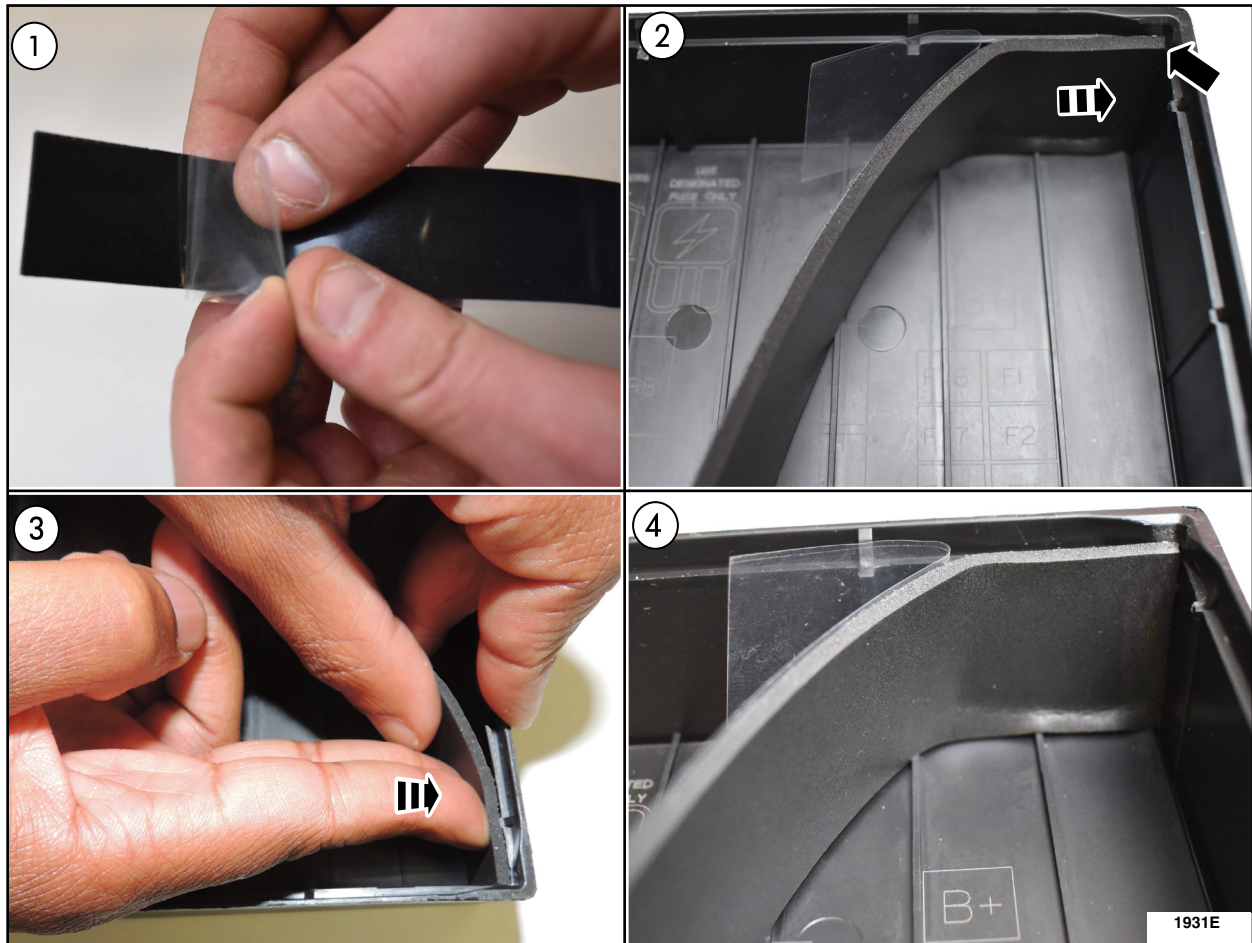

FIGURE 5
7. Peel back two inches of the foam backing off of the first piece of foam. Place the foam piece exposed end in the appropriate inside corner of the BJB cover making sure to keep it even with the inside lip of the cover. Stick the foam and press downward. See Figure 5.